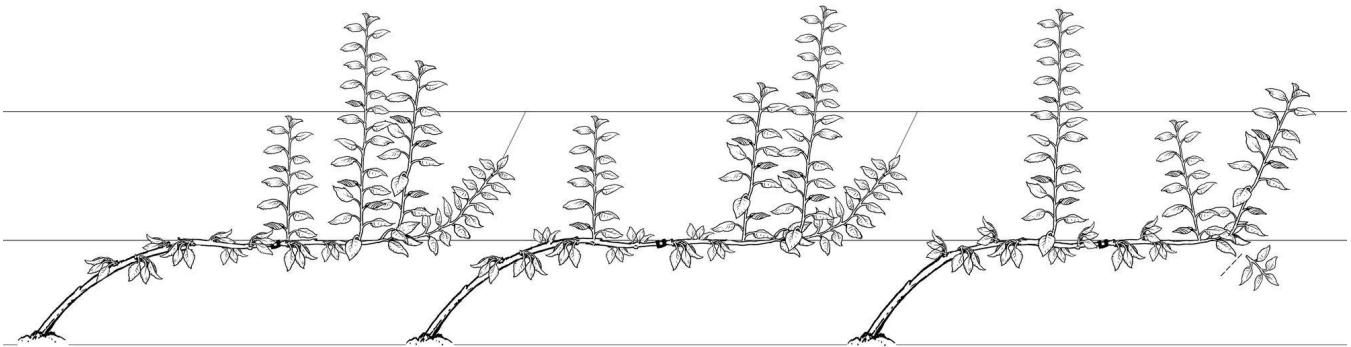

Figure 66
- If tree length exceeds tree spacing, train the terminal end as a vertical shoot (Figure 66).